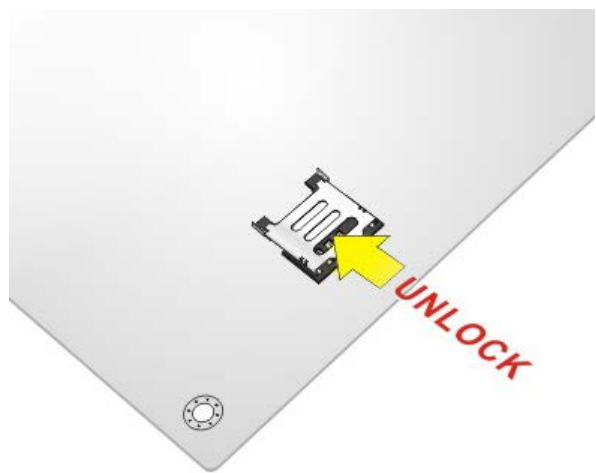

Figure 4-11: Unlock SIM Card Slot Cover
Step 2: Unlock the SIM card slot cover by sliding the cover in the direction as shown by the arrow in **Figure 4-11**.